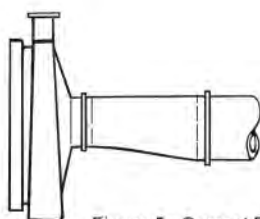

Figure 5 - Correct Eccentric Installation
- 3.9 If a reducer is connected to inlet, use eccentric type to prevent problems due to trapped air. (See Figure 5).